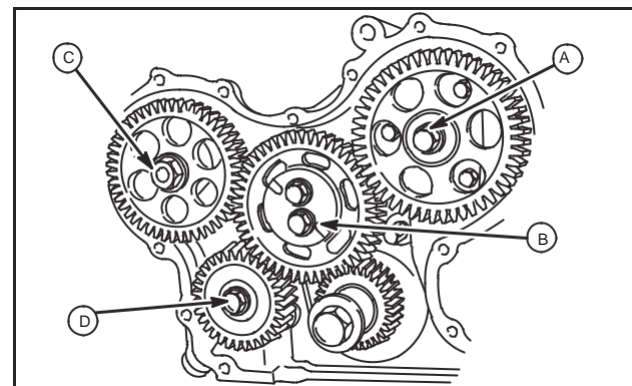

Fig. 17 – Torque Screws
8. Torque screws as shown, Fig. 17.